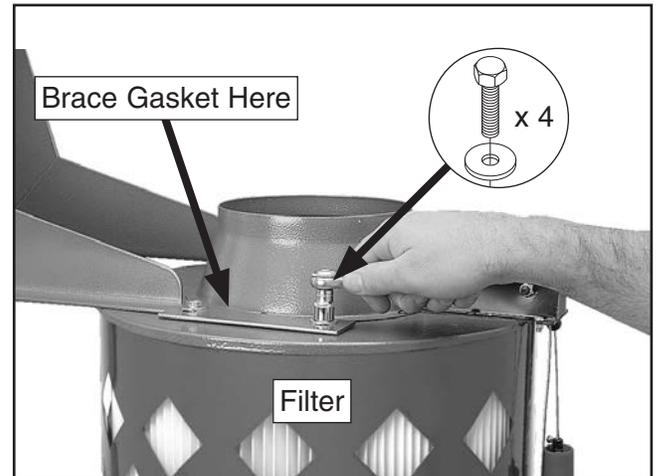

Figure 16. Mounting filter to braces.
20. Mount filter to L-braces with brace gaskets between them, as shown in **Figure 16**, using (4) $\frac{5}{16}$ "-18 x $\frac{3}{4}$ " hex bolts and $\frac{5}{16}$ " fender washers.